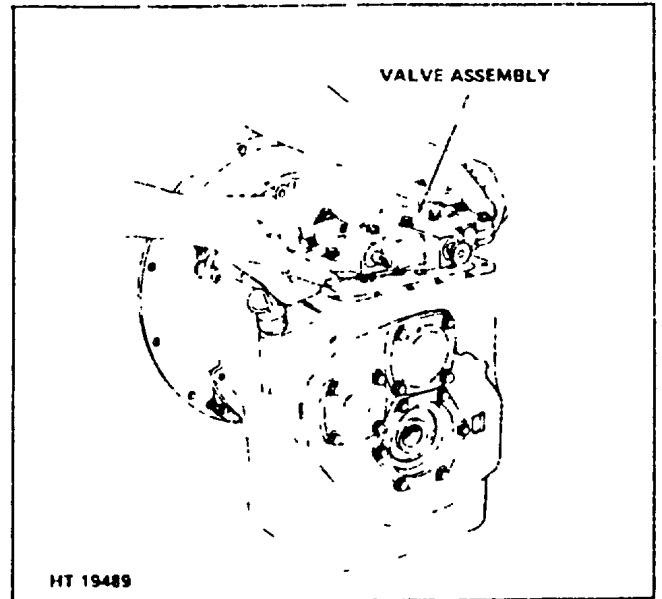

Figure 3. Removing Valve Block
1. Remove capscrews from valve block, and remove from transmission. (See Figure 3.)